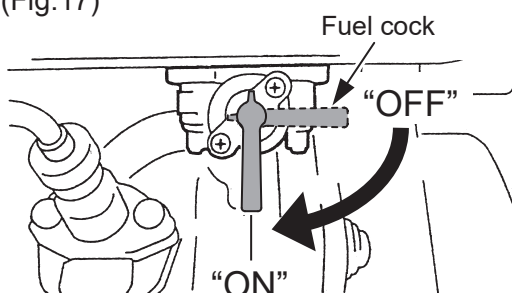

Fig.17
5. Move the fuel cock to the "ON" position. (Fig.17)